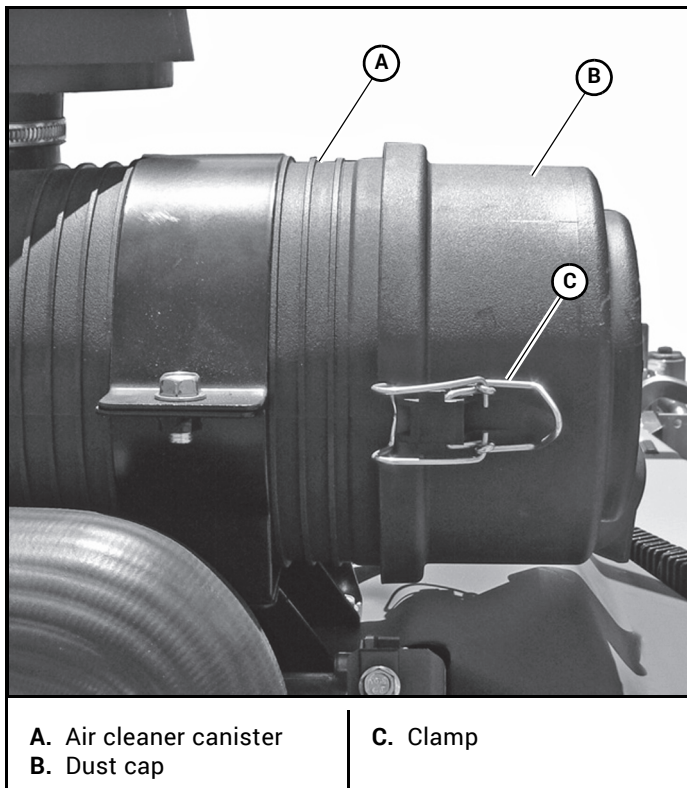

Figure 4-12
3. Reinstall the dust cap. Make sure it seals all the way around the air cleaner canister, then tighten the clamps. Figure 4-12